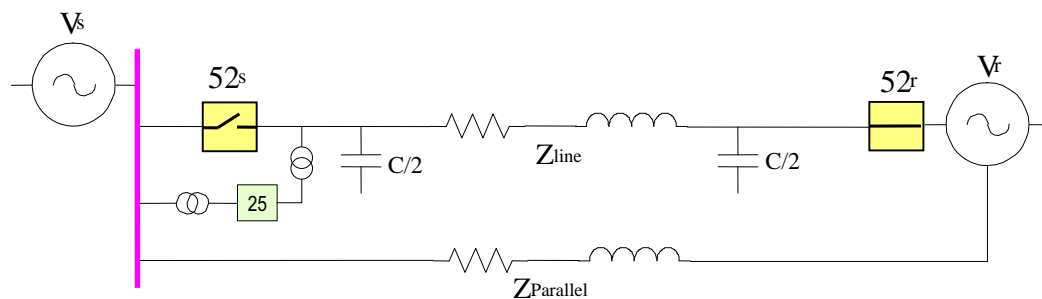

Figure 5-29: Synchronism check element
Synchronism check (25) is defined as the comparison of the voltage difference of two circuits with different sources to be either linked through an impedance element (transmission line, feeder, etc.), or connected through parallel circuits of defined impedance (Figure 5-29: Synchronism check element) The voltage comparison between both sides of a recloser is performed before closing the recloser, in order to minimize internal damage that can occur due to the voltage difference, both in magnitude and angle. This is extremely important in steam generating plants, where reclosing output lines with angle differences can lead to severe damage to the turbine axis.